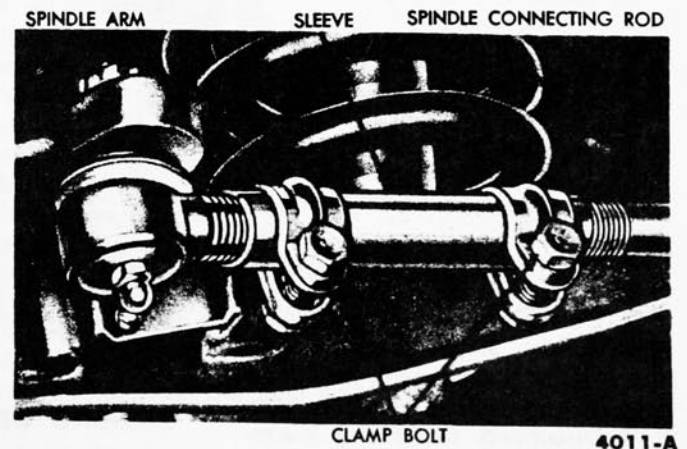

FIG. 3—Spindle Connecting Rod Sleeve
1. Loosen the two clamp bolts on each spindle connecting rod sleeve (Fig. 3).